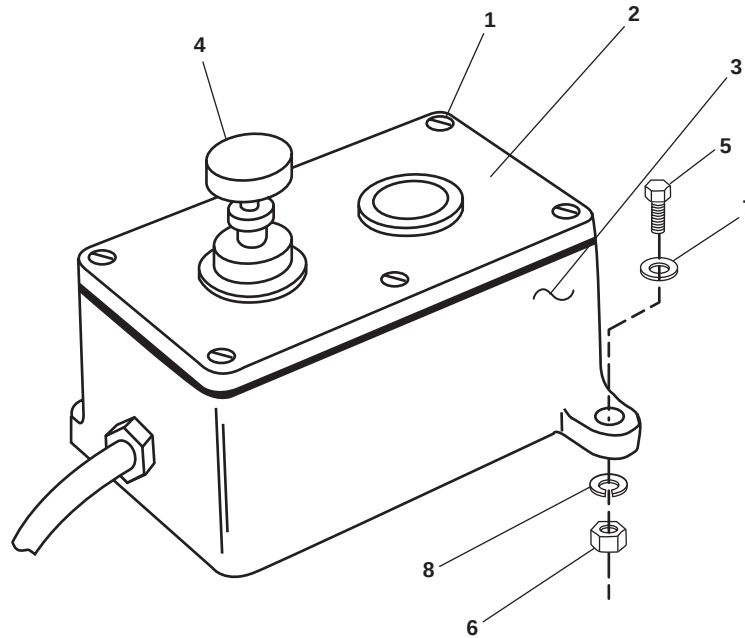

Figure 2. Yardarm Blinker Key
1. Remove the four screws (figure 2, item 1) that secure the cover (figure 2, item 2) to the base (figure 2, item 3).
2. Remove the cover (figure 2, item 2) to expose the terminals for the switch (figure 2, item 4).
6. Remove the two bolts (figure 2, item 5), two nuts (figure 2, item 6), two flat washers (figure 2, item 7), and two lockwashers (figure 2, item 8) that secure the base (figure 2, item 3) to its foundation. Discard the lockwashers.
7. Remove the base (figure 2, item 3).
1. Install the blinker key base (figure 2, item 3) on its foundation and secure it with the two bolts (figure 2, item 5), two flat washers (figure 2, item 7), two new lockwashers (figure 2, item 8), and two nuts (figure 2, item 6).
4. Install the cover (figure 2, item 2) on the base and secure it with the four screws (figure 2, item 1).